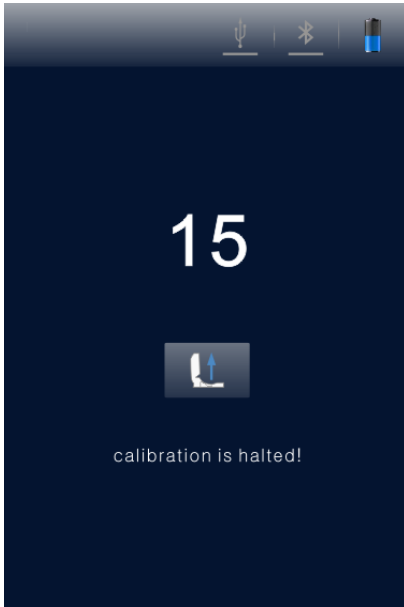

Fig 2.5-1
- b. If the  icon and < **Calibration is halted!** > are displayed on the screen of detector, as shown in figure 2.5-1. Please take out the ATP Quickswab from the detector to continue the calibration process.